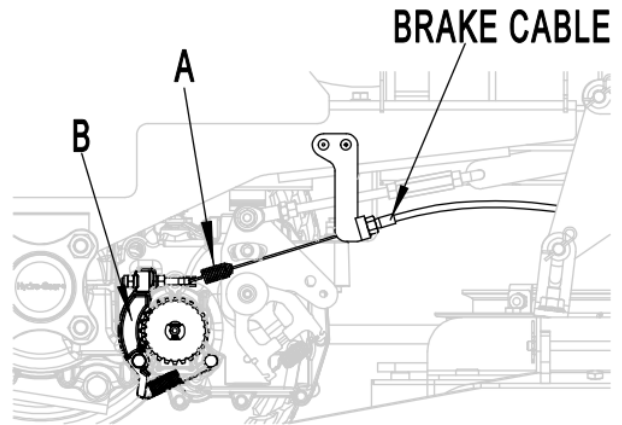
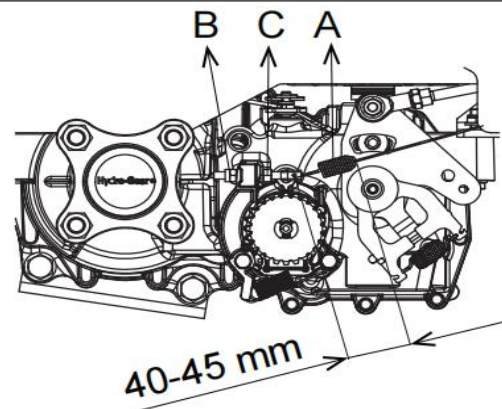

Fig. 24
Fig. 25
- Locate the brake spring (A, Fig. 24).
- Place both steering levers in swing-out (neutral position). Gears in the brake arm (B) meshed into the gears of the brake disk.
- Measure the length of the spring with the parking brake engaged. If the spring is not within this range, release the parking brake and turn the adjustment nuts (B and C, Fig. 25) to compress or release the spring.